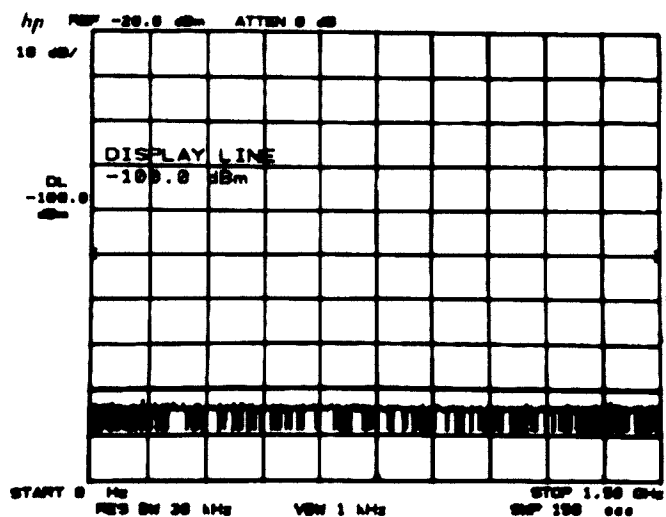

Figure 2-27. Residual Responses Measurement
7. Press TRACE A **(CLEAR-WRITE)**, SWEEP **(SINGLE)**. Wait for completion of the sweep. (See Figure 2-27.)